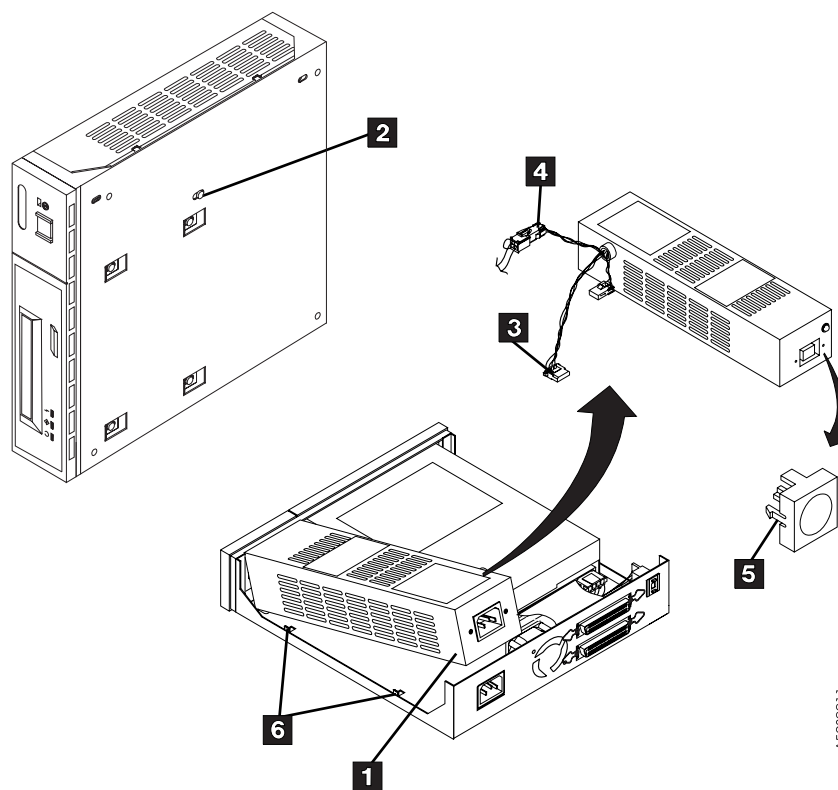

Figure 15. Removing and Replacing the Power Supply
2. Tilt the 7206 Tape Drive on its side. Support the power supply ( **1** in Figure 15) while removing the power supply mounting screw **2** from the bottom.
- Align the power supply inside the two tabs ( **6** in Figure 15) on the base of the chassis.